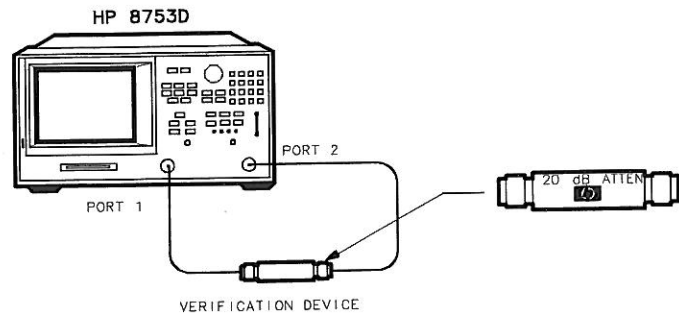

Figure 1-4. Connections for the 20 dB Verification Device
35. At the prompt, connect the 20 dB attenuator (supplied in the verification kit) as shown in Figure 1-4.